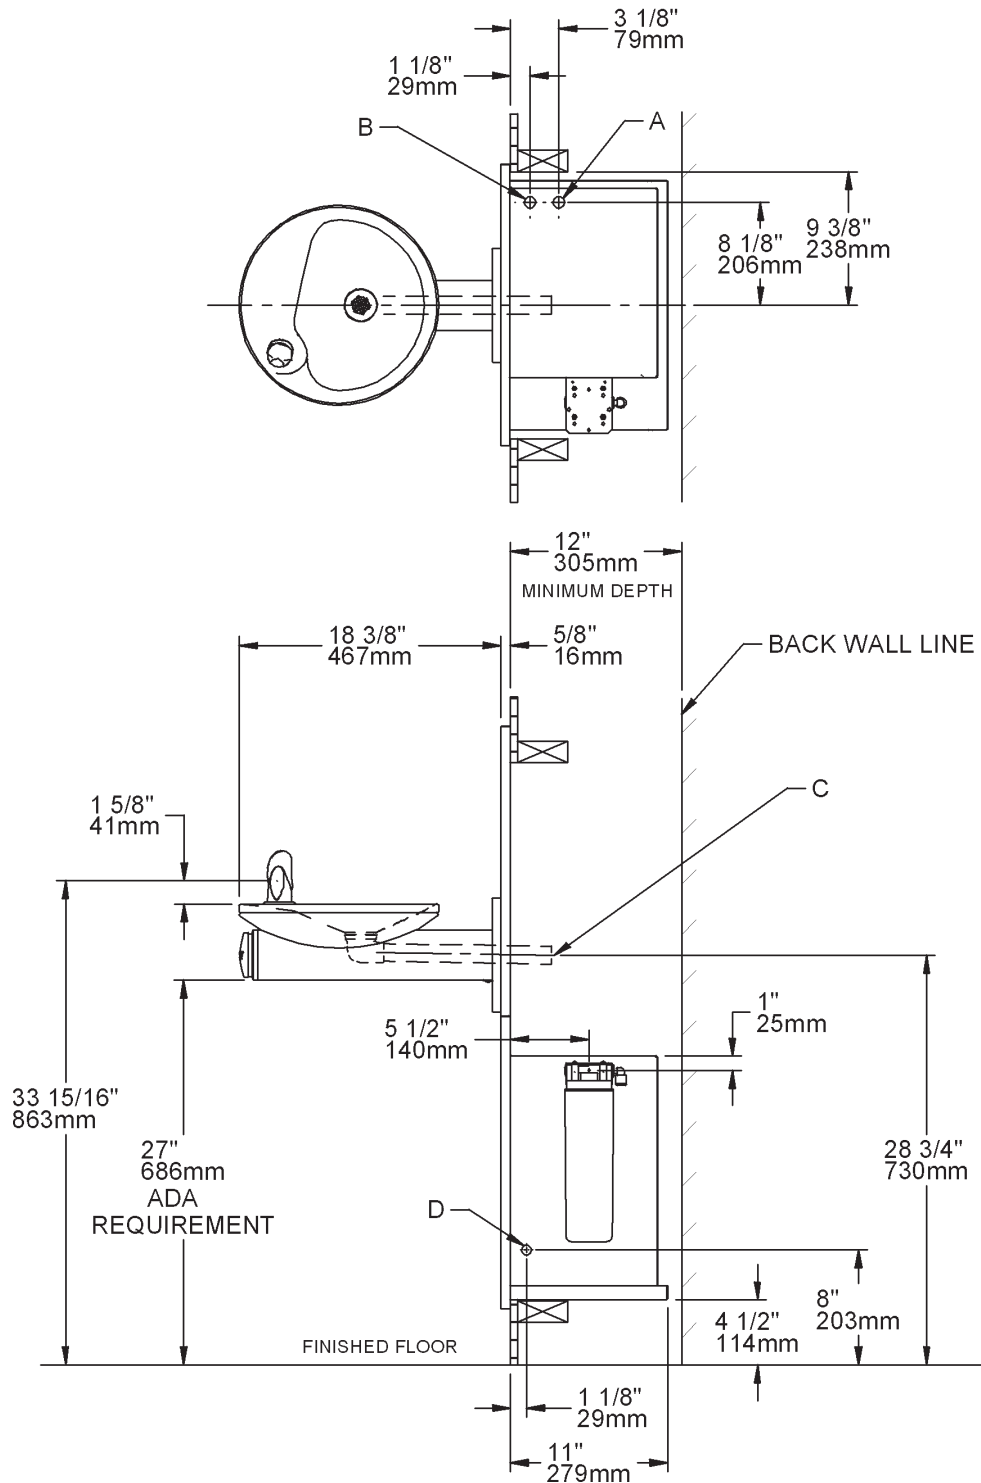

Figure 1 - Rough-in Dimensions
1. **Install chiller:** Remove front panel of chiller. **Remove and discard cardboard inner pack from between compressor and side panel.** Slide chiller onto the shelf and position it to the left as per dimensions in Figure 1.